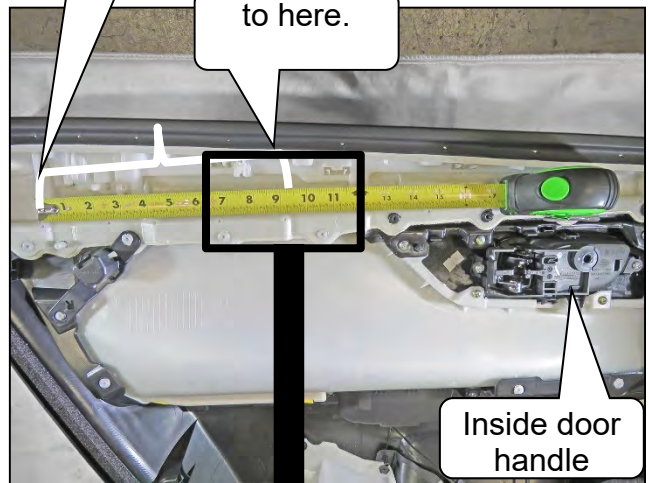

Figure 23
14. Measure 9 ¼ inches (235 mm) towards the door handle, as shown in Figure 23.